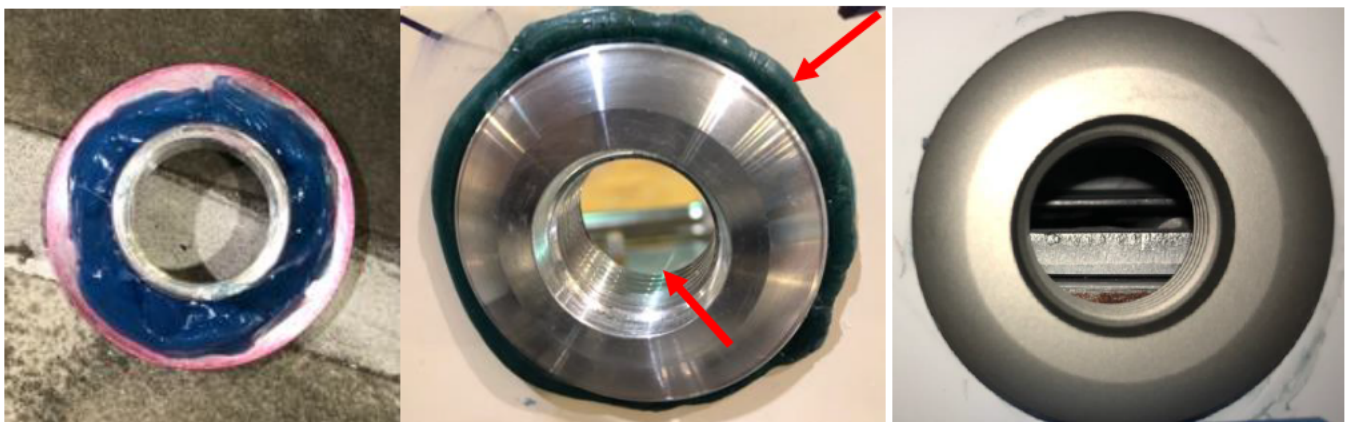

Figure 27: Adhesive Applied to Drain Port Insert and Installed –TOOL SQUEEZEOUT, ENSURE THREADS ARE CLEAR
9. Apply **MA420 adhesive** to the primed port insert and install it into the newly drilled hole as shown in Figure 27. Ensure that the adhesive does not obstruct the threads of the insert.